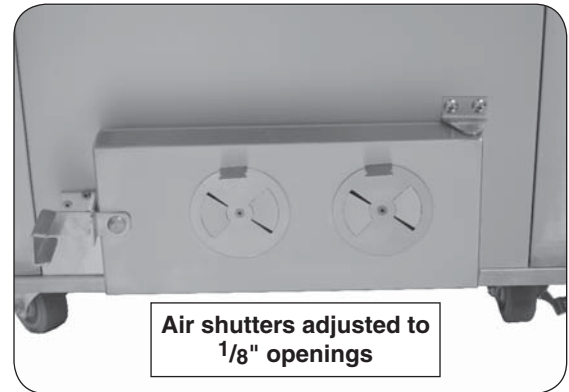

Fig. 11-1
8. Once the desired temperature is reached; adjust the two air shutters on the ash door to an approximate $\frac{1}{8}$ " (see Fig. 11-1).